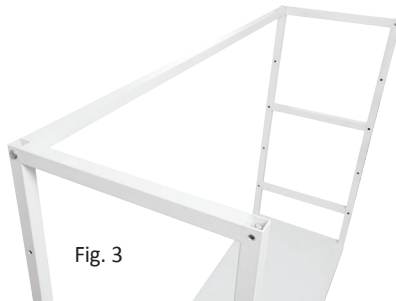

Fig. 3
4. Install the Cross Bar (Part B) at the opposite/top end of the side walls using two of the provided screws (see Fig. 3). This will give stability to the structure. You can install the cross bar into either the front two holes or the back two holes. When the cross bar is installed, it will define the front/back of the entire rack (when looking at the front, the cross bar should be in the back).